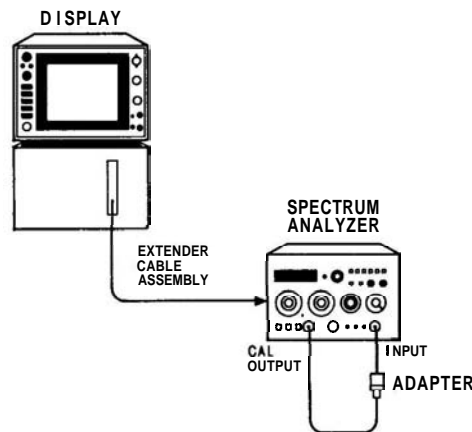

FIGURE 5-4. 1-dB OFFSET ADJUSTMENT TEST SETUP
2. Connect equipment as shown in Figure 5-4.